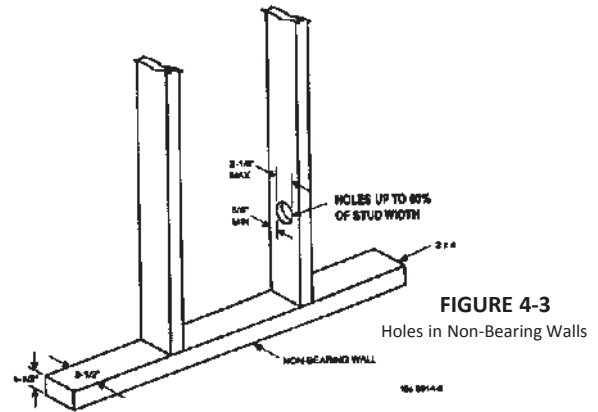

**FIGURE 4-1**
- The size of the hole drilled through top plates, top frame members, and sole plates, to allow the vertical passage of the tubing, shall not exceed 1/2 of the width of the member. The hole should be bored through the center of the member. (See figure 4-1.)
- Where soles or plates are cut for tubing, the width of the cut shall be 1/2 in. (12.7 mm) larger than the outside diameter of the tubing but not greater than 2 in. (50.8 mm), and the tubing must be protected with a listed striker plate of the appropriate length and width installed in accordance with the manufacturers installation instructions. (See figure 4-1.)